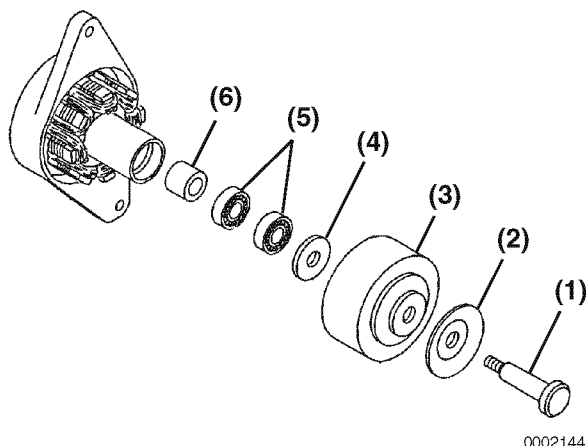

Figure 12-28
3. Reinstall the front bearings (**Figure 12-28, (5)**) and spacer (**Figure 12-28, (6)**).
4. Reinstall the flat washer (**Figure 12-28, (4)**), flywheel (**Figure 12-28, (3)**), pulley half (**Figure 12-28, (2)**), and through bolt (**Figure 12-28, (1)**).